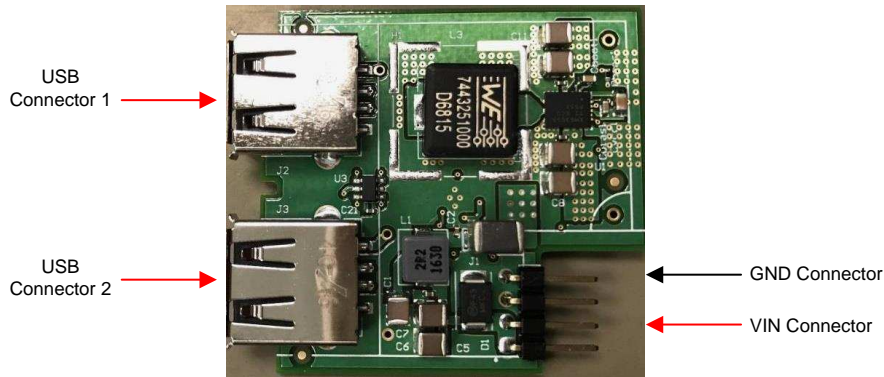

Figure 3. TIDA-01388 Board Setup
1. Connect a DC power supply to the board input as Figure 3 shows.
2. To imitate the typical load of a USB output, connect an electronic or resistive load to the dual output as Figure 3 shows. Each 5-V output is rated to a typical current of 2.1 A.